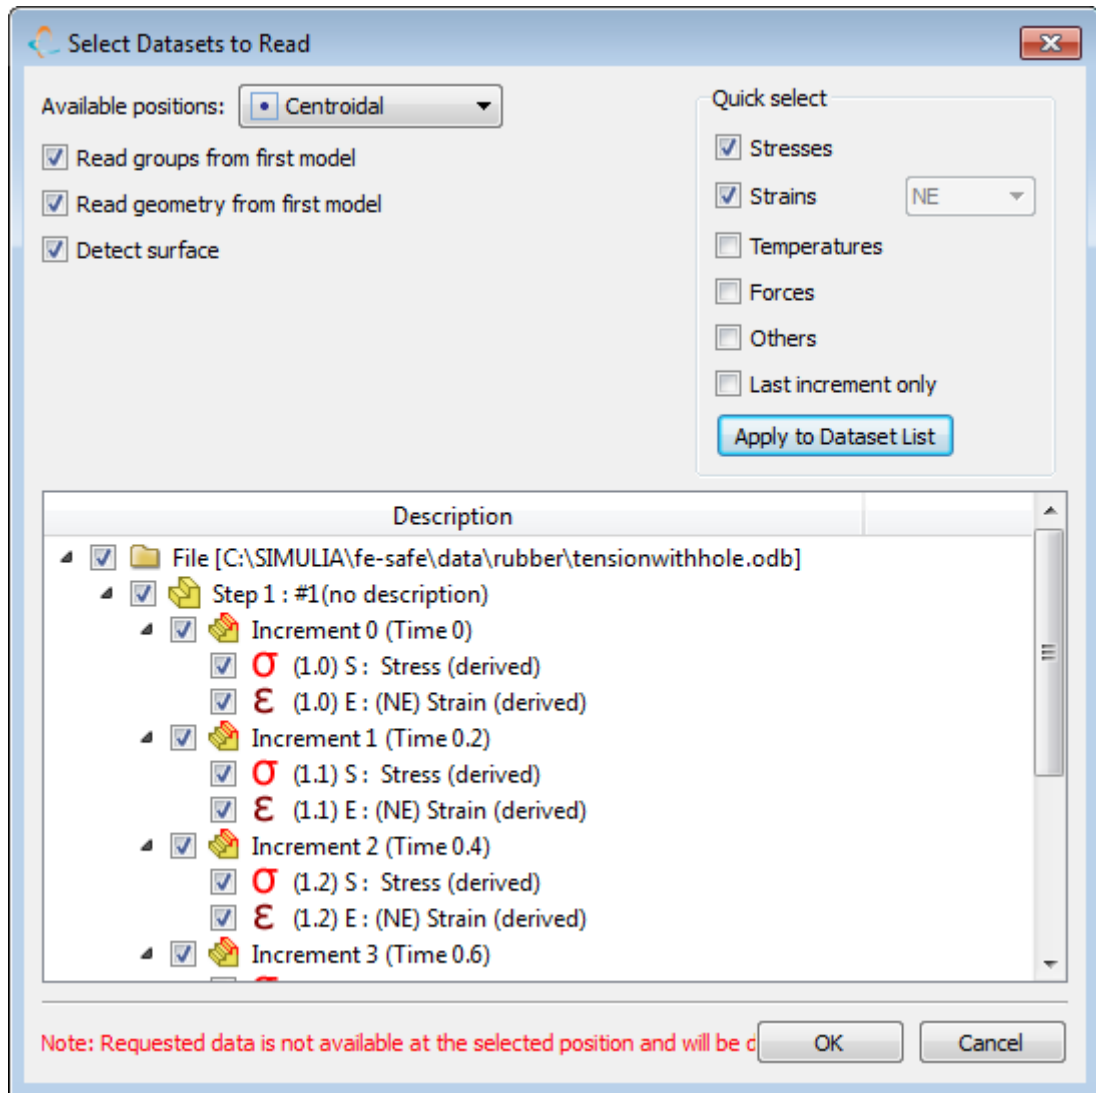

Figure 1-7 Select Datasets to Read
The *Select Datasets to Read* dialogue will be displayed. Check the *Quick select* items for **Stresses**, **Strains (NE)** as shown and click **Apply to Dataset List** to apply the selections. Ensure that all of the checkboxes for the stress and strain symbols under each Increment are selected and select **OK** to load the datasets, as shown in Figure 1-7: